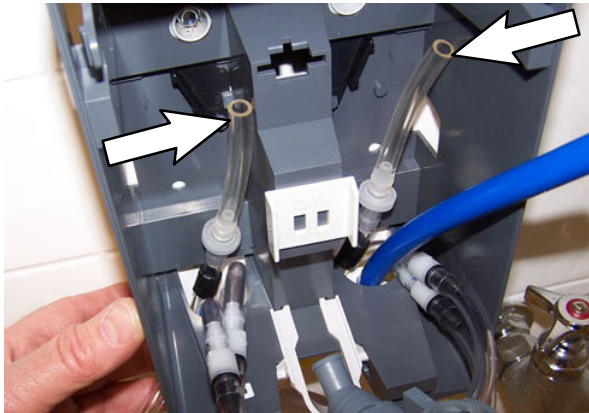

FIG. 14
13. Insert the vent hoses (hoses with black markings) from both the hose assembly with the yellow marking and the hose assembly with the blue marking up into the dispenser. (Fig. 14)